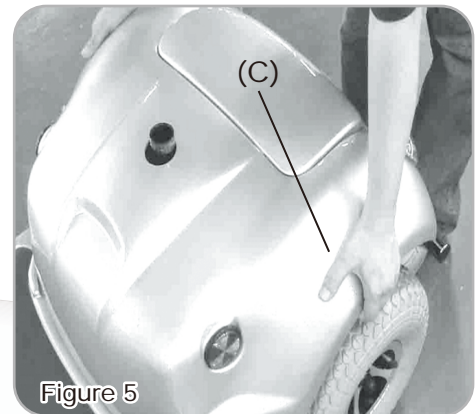

Figure 5
Rear Shroud (C) is removable by lifting the Rear Shroud toward the direction as the shaft showed in the picture. (See Fig. 5)